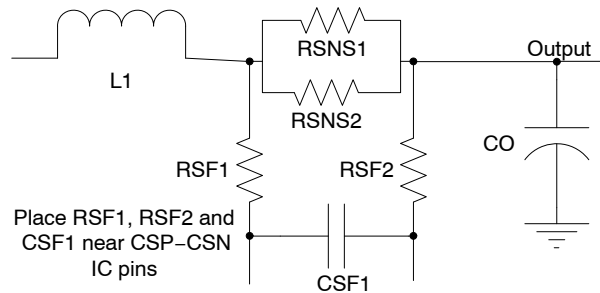

Figure 23. Current Sense Resistor π -Filter
- An optional R–C–R π -filter on the IC’s CSP/CSN pins (Figure 23) is sometimes used to filter differential and common mode noise.